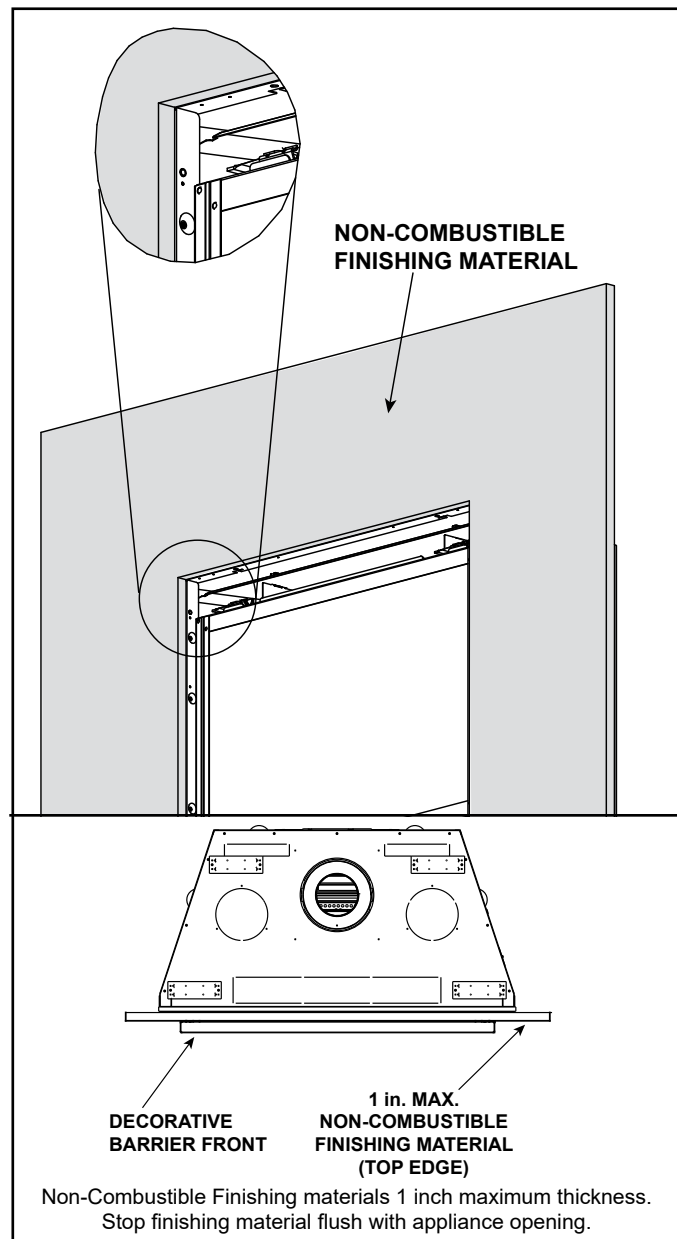

Figure 10.13 Non-Combustible Finishing Material 1 Inch Thick or Less - Overlap Fit Fronts
- A. Finish material 1 inch thick or less: Use with Overlap fit fronts. Finishing strips not required. See Figure 10.13.